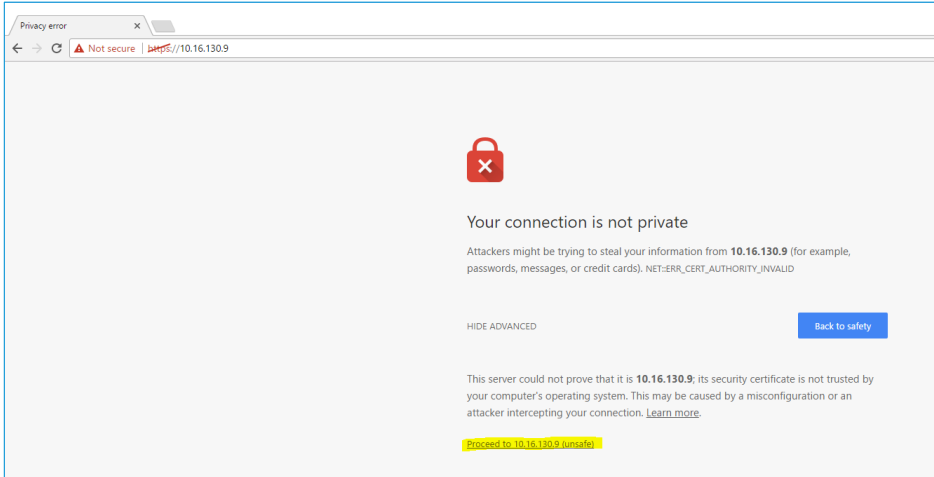

Figure 10: Web interface – second screen
- 5. Click **Proceed** (Figure 10).